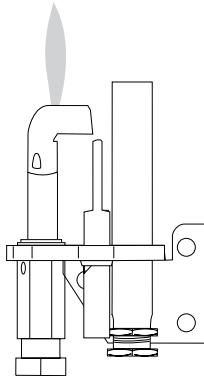

Figure 25. PSE Pilot Burner used on the EP28 Series models.
1. Determine which pilot is installed in the fireplace based on figure 25.